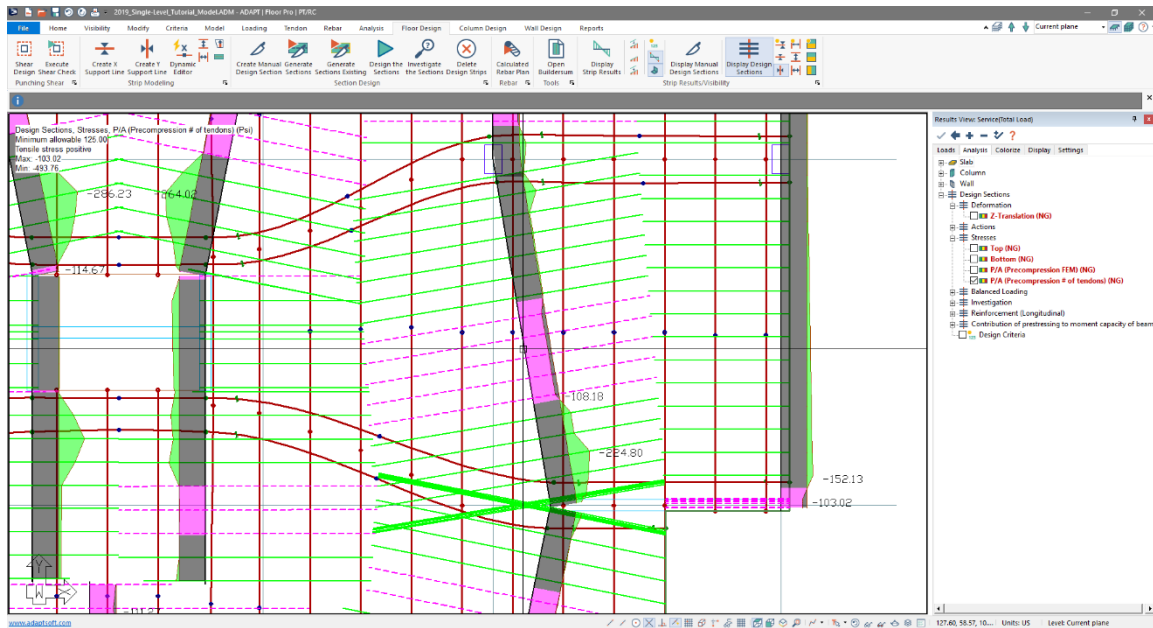

Figure 8-67
- Zoom in to the area of the model where there is a support line running along gridline F between gridlines 3 and 4 as shown in **FIGURE 8-67**.